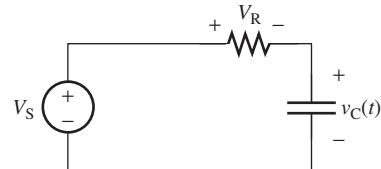

FIGURE P5.9 Circuit for Problem 5.9.
- 5.9** (H) Given the circuit shown in Figure P5.9, find V_R in term of R , C , and V_S .